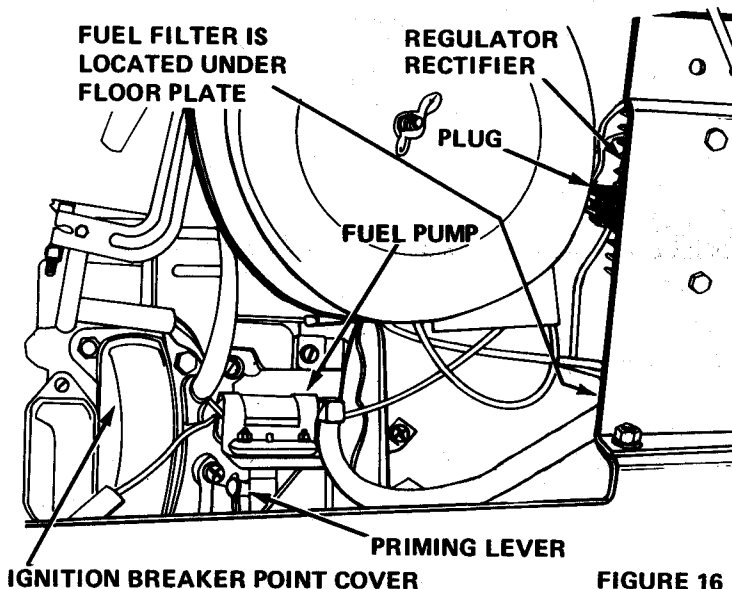

FIGURE 16
**WARNING:** Reversed battery cables or reversed cables from a battery charger or booster battery can cause damage to the regulator rectifier (Figure 16). Always disconnect plug from the regulator rectifier before using a charger, booster battery or when electric welding is done on the tractor.
The engine may fail to start due to lack of fuel at the carburetor if the fuel pump shown in Figure 16 loses its prime. This can occur when the fuel tank is run dry or may be due to evaporation of fuel from the system after a storage period. In either case, make certain there is fresh fuel in the tank and operate the priming lever on the fuel pump several times to start fuel flow.
When dirt or other foreign material is allowed to enter the fuel tank it will collect in the fuel filter shown in Figure 16. This will eventually cause fuel stoppage. The filter can be disassembled and cleaned.